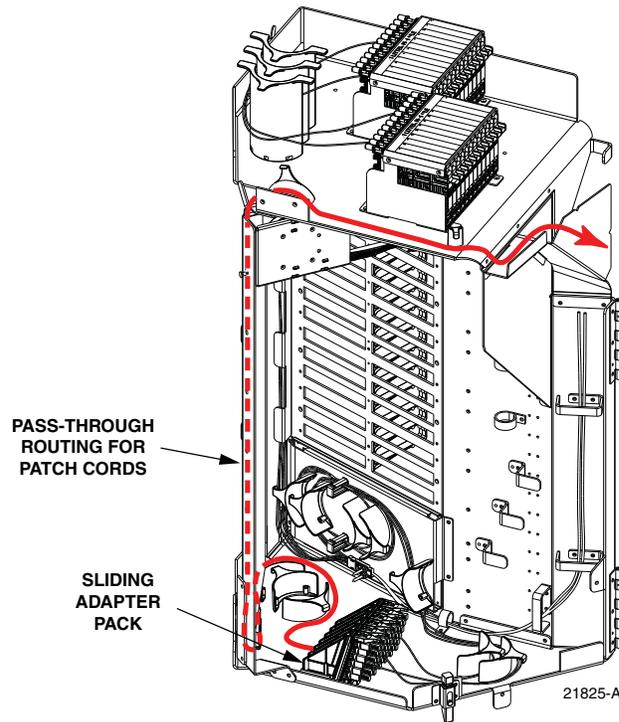
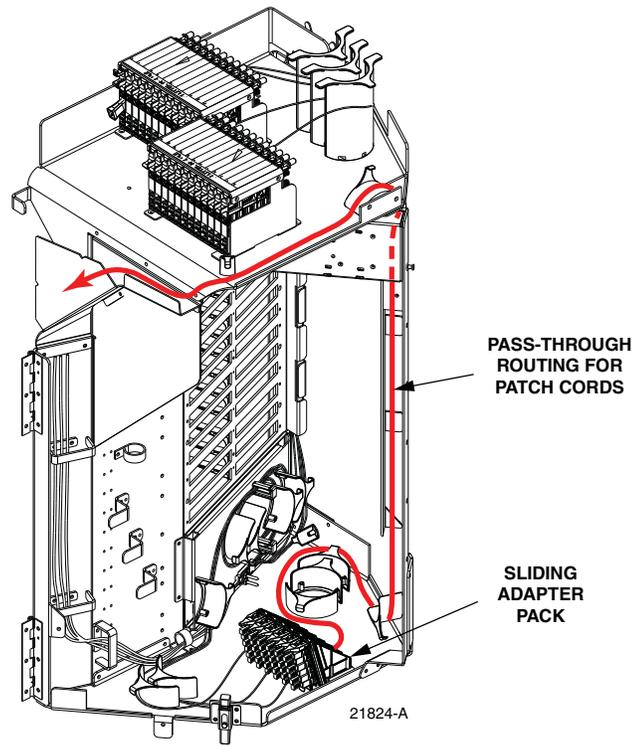

Figure 36. Routing Patch Cord Through Right Swing Frame
Figure 37. Routing Patch Cord Through Left Swing Frame
8. Route the pass-through patch cord around the radius limiters and up the guideway to the top of the swing frame as shown in Figure 36 (right swing frame) or Figure 37 left swing frame.